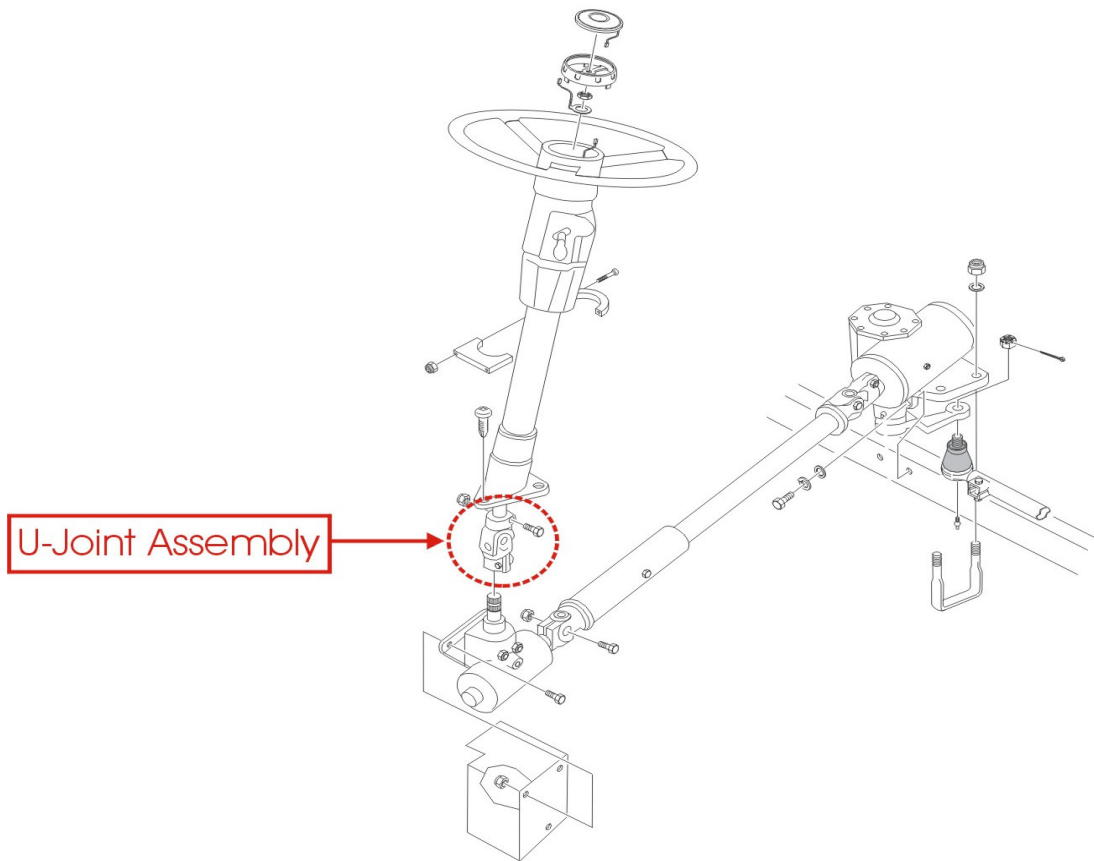

Figure 1:
2. Locate U-Joint Assembly as shown in Figure 1.